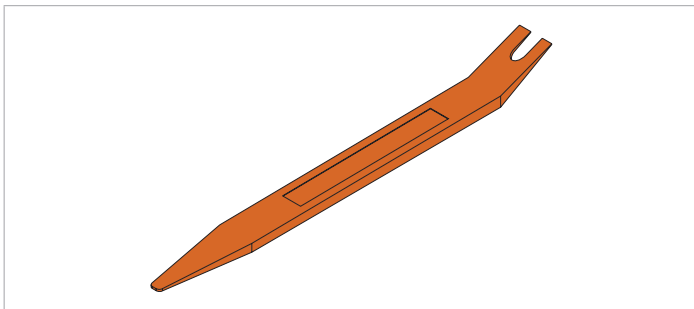

Fig. 02: Example of a panel removal tool.
- ▶ In case of a twisted main seal, push the main seal gently under the roof molding using a plastic panel removal tool (see Fig. 02).